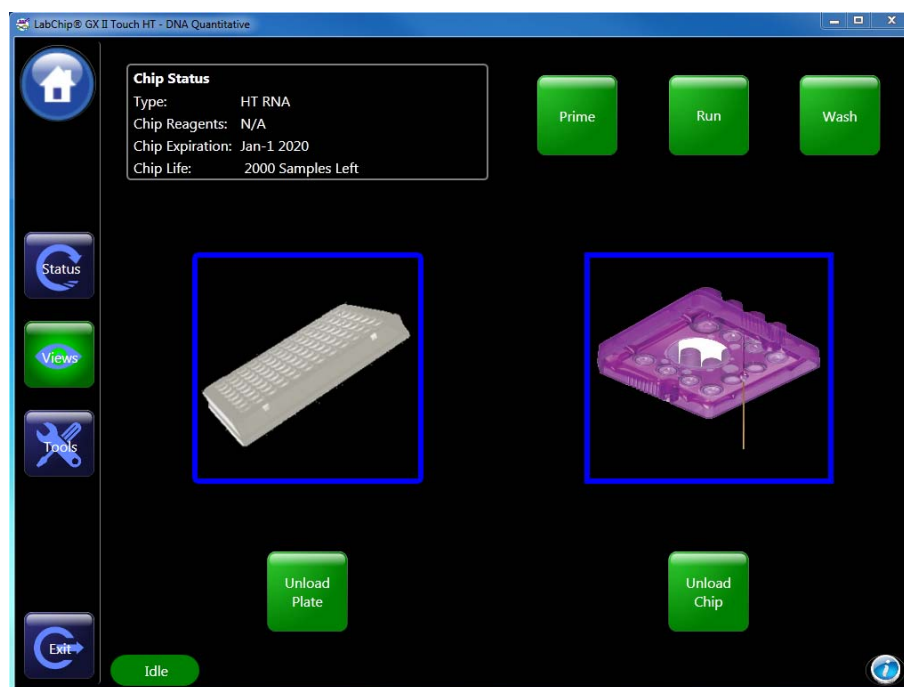
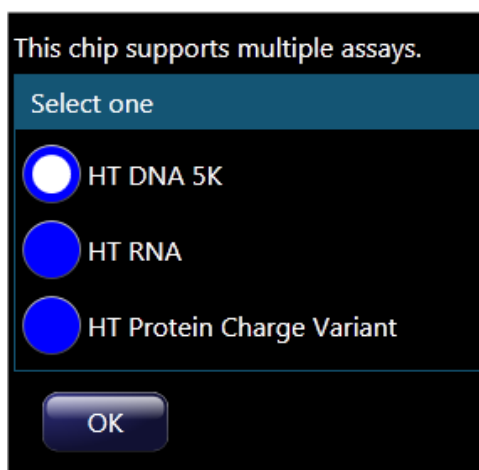
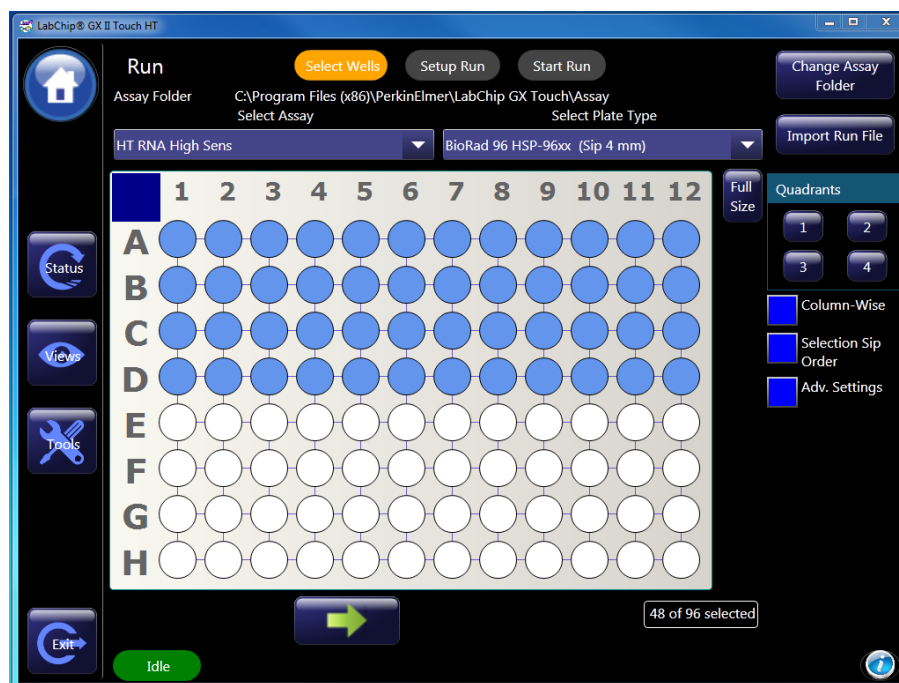
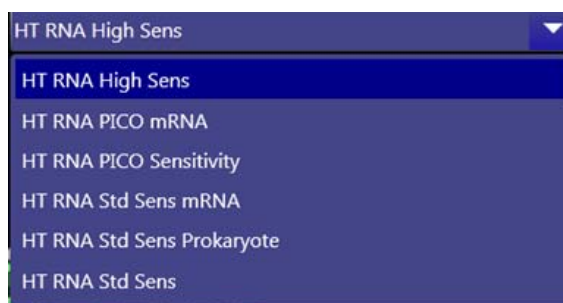

Figure 5. Home screen
Figure 7. Assay Choice screen
Figure 8. Select Wells Tab
Figure 9. Assay Type Drop-Down List
- 4 Touch the **Unload Chip** button on the **Home** screen (Figure 5).
- 6** Touch the **Load Plate** button on the Home screen (Figure 5) to retract the sample plate and move the sipper to the Buffer Tube. The Assay Choice screen opens (Figure 7).
Note: The chip can be primed independently from running assays on the LabChip GX Touch/GXII Touch instrument. Touch the Prime button on the Home screen (Figure 5 on page 11). Select the desired assay from the Assay drop-down list (see Figure 9). Make sure the Buffer Tube is placed in the instrument. Touch the Prime button on the Chip Priming screen.
- 1 Touch the **Run** button on the Home screen (see Figure 5 on page 11). The Select Wells tab opens (see Figure 8).
- 2 Select the desired assay type (see Figure 9). For RNA assays, the valid assay types are: